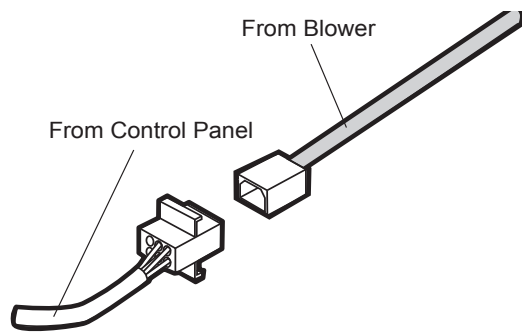

**Figure 20: Integral Blower Model VTN1030**
3. Connect the blower's Molex plug connector to the connector present inside the hood, as shown in *Figure 20*.